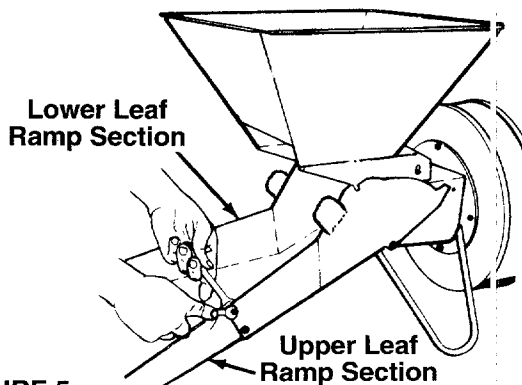

FIGURE 5.
- Place the edge of upper leaf ramp section inside the lower leaf ramp section. Secure with four truss machine screws and hex lock nuts. The heads of the truss machine screws should be to the inside of the upper leaf ramp section. Start all screws and nuts, then tighten securely. See figure 5.